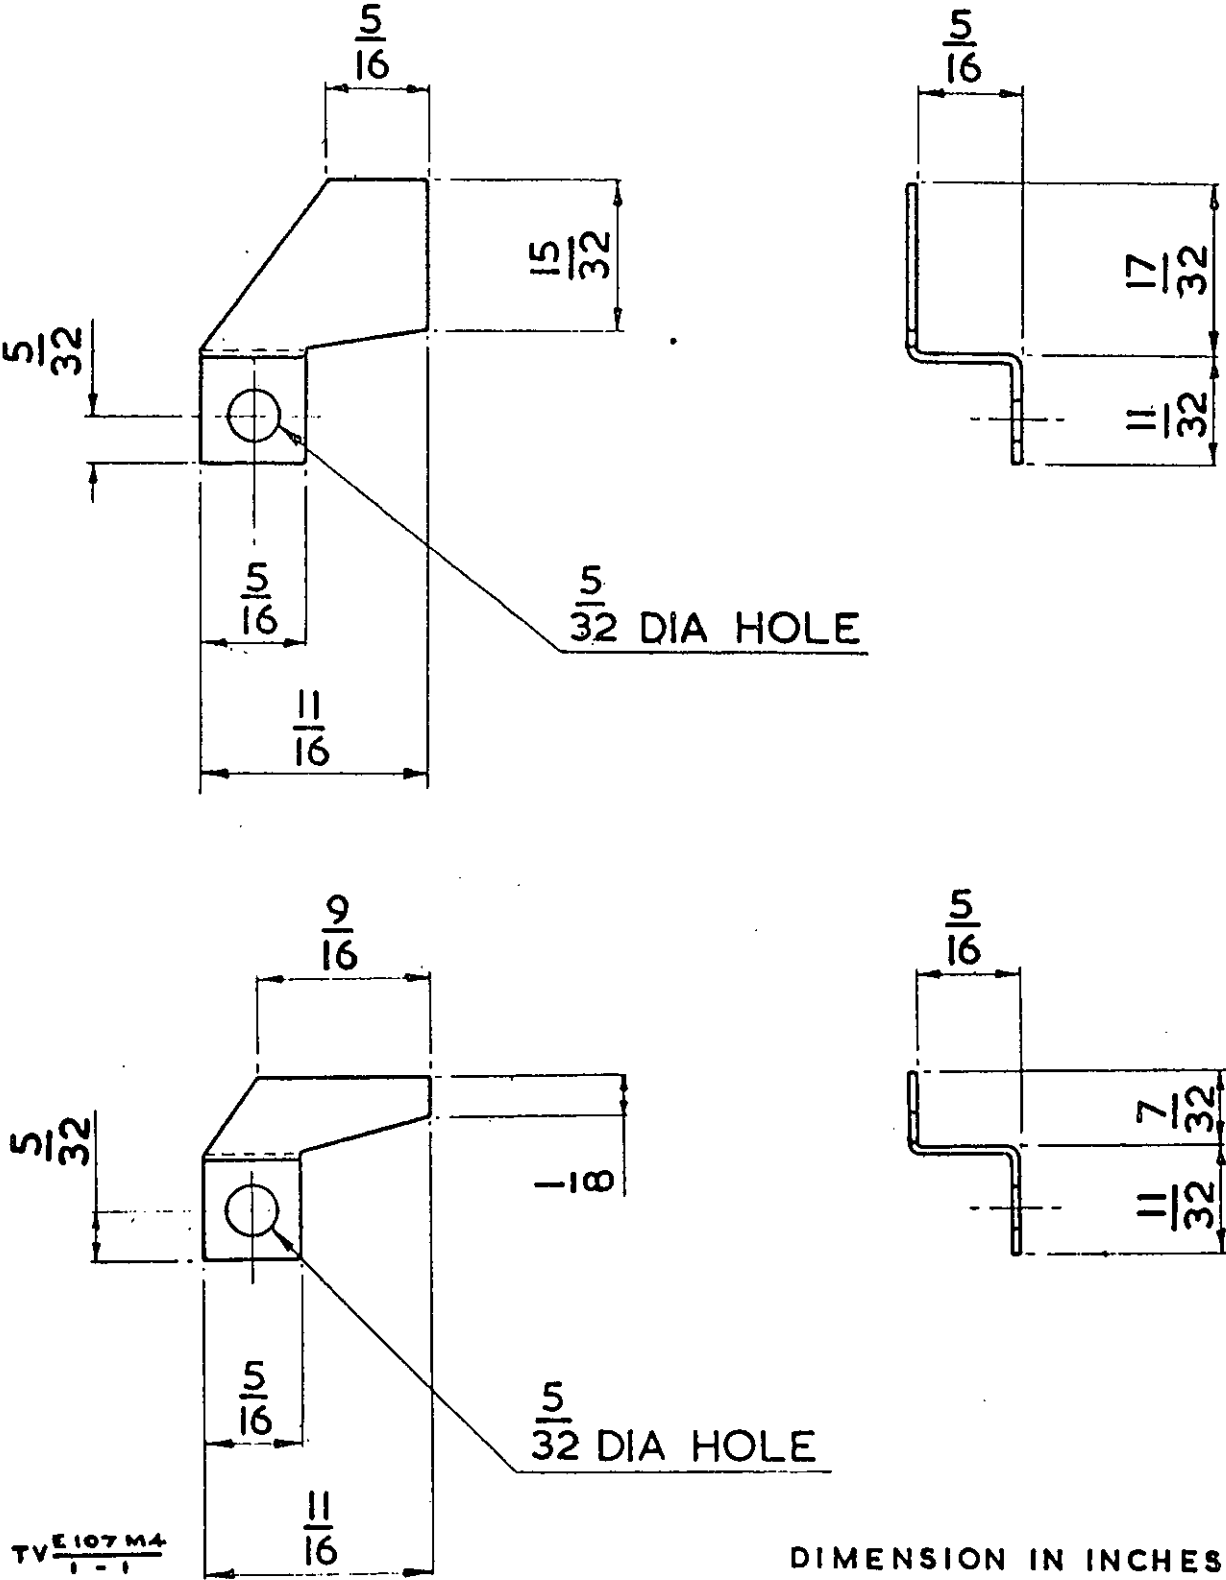

Fig 1 - Contact strips, details
- a. See Fig 1: Manufacture two contact strips, from brass sheet (GB 10234), to dimension shown.